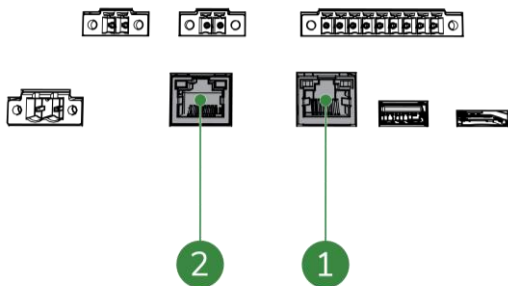

Figure 5-26: HMI ethernet connectors
- SDM ECO transmitter PoE connector (Figure 5-26, pos. 2);
- Webserver ethernet connector (Figure 5-26, pos. 1).